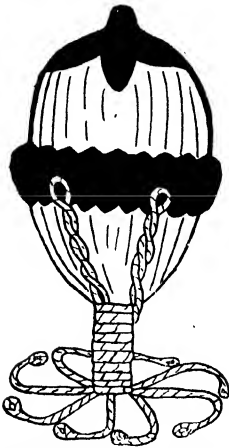

Fig. 249.—Eggshell Inkstand.
**Inkstand.**—Fig. 249 shows an inkstand. Cut the shell in halves; fill the lower half with plaster-of-Paris, put a small bottle in the centre (if previously oiled, it can be removed